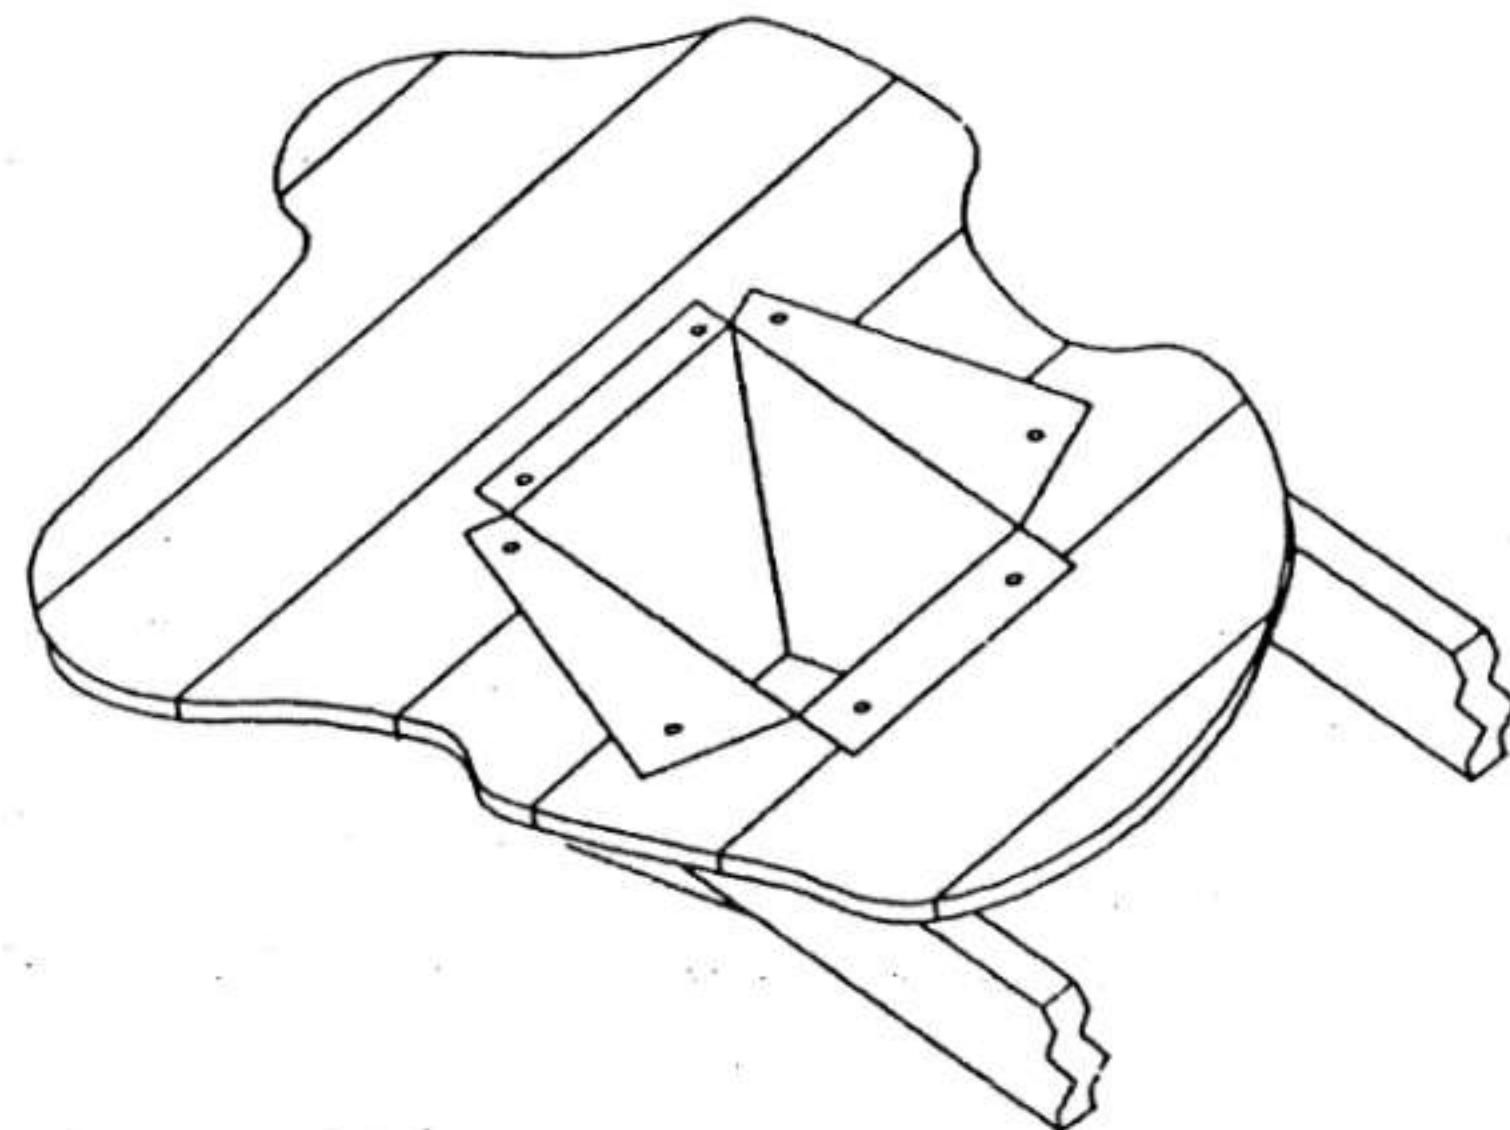

Fig. 13
- 5) Using tin snips, cut the Support Box from the top corners down to the roofline, and fold the resulting flaps over the roof sheathing. Fig. 13. Before nailing it to the roof, run a bead of non-hardening mastic around the top edges of the Support Box, to make a seal between the Box and the roof. Clean out any combustible material from inside the Support Box.